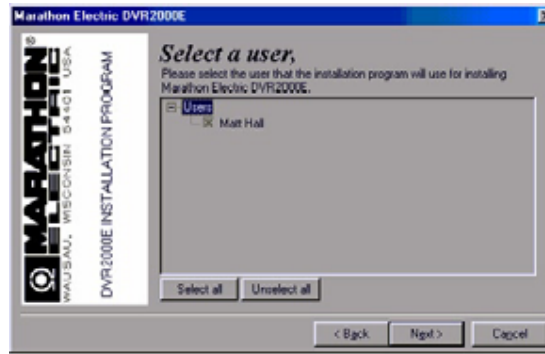

Figure 6-4. Select A User Screen
4. Select all of the software files for installation by clicking the Select all button. Click the Next> button to proceed to the Select A User Screen (Figure 6-4).